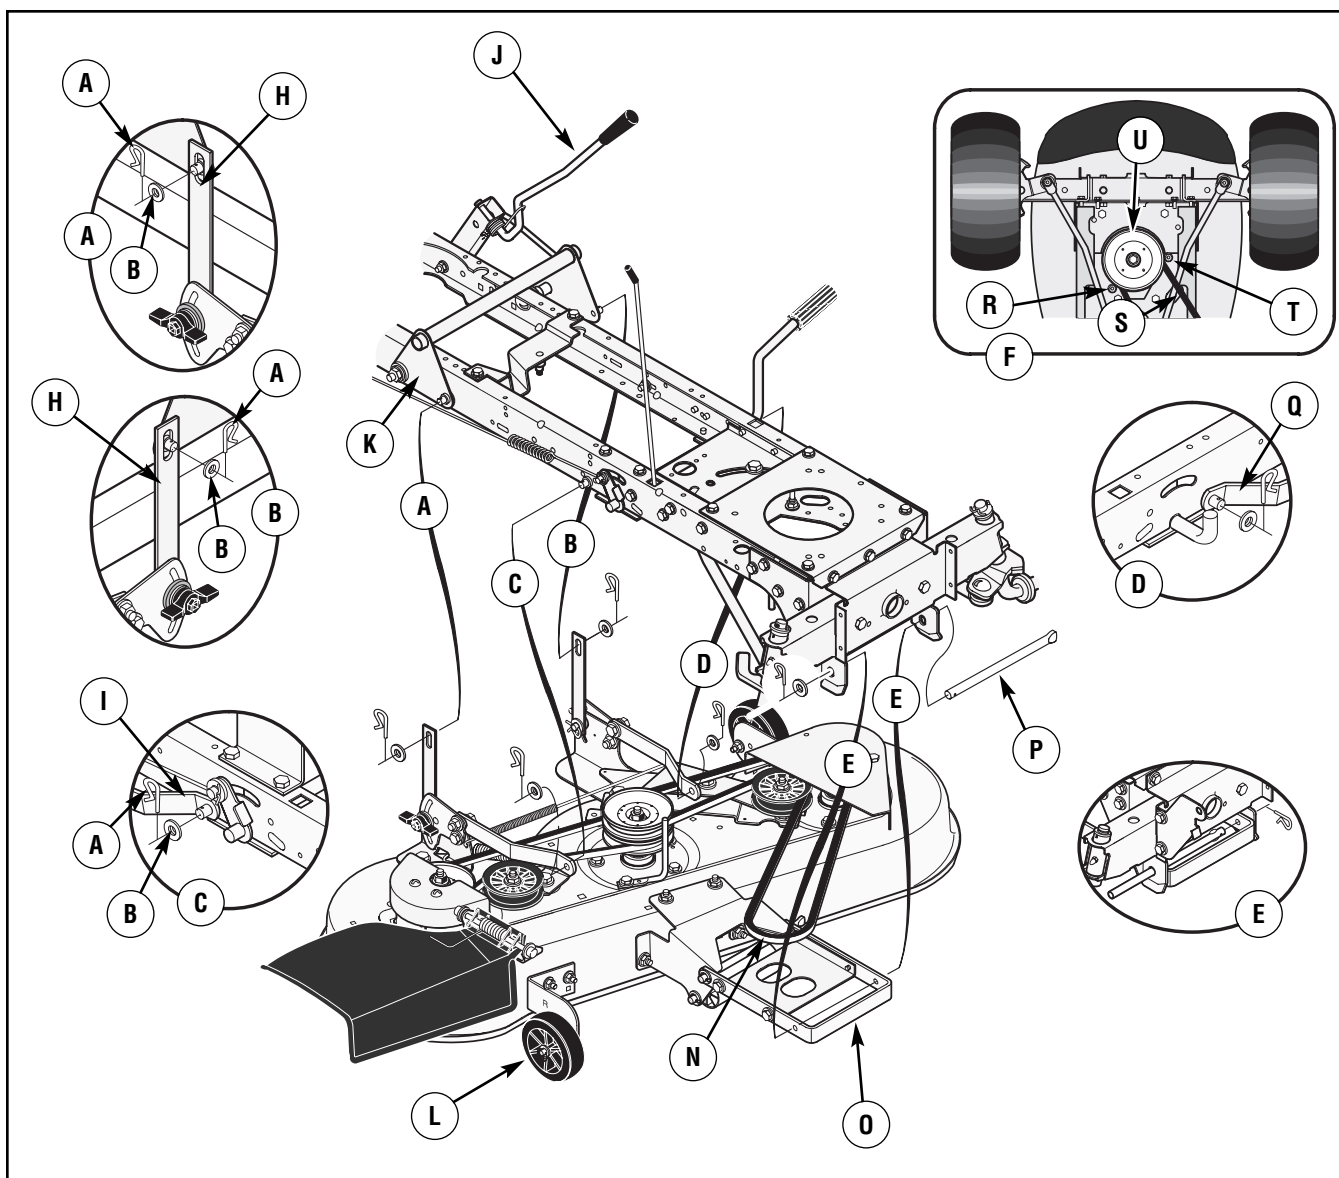

Figure 35: Mower deck assembly (46 & 52" models)
3. Remove the hair pins and the washers from the **adjuster arms** (Figure 35). See illustrations "C" and "D".